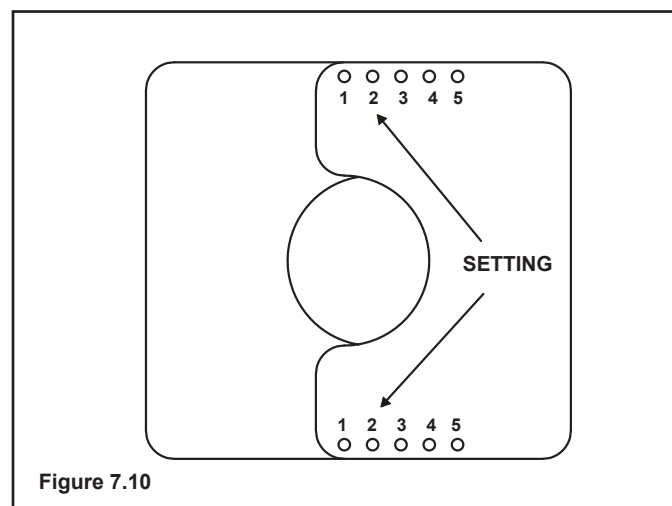

Figure 7.10
- Center the Flue Restrictor on vent and secure in place by using two self-tapping screws (see Figure 7.10).